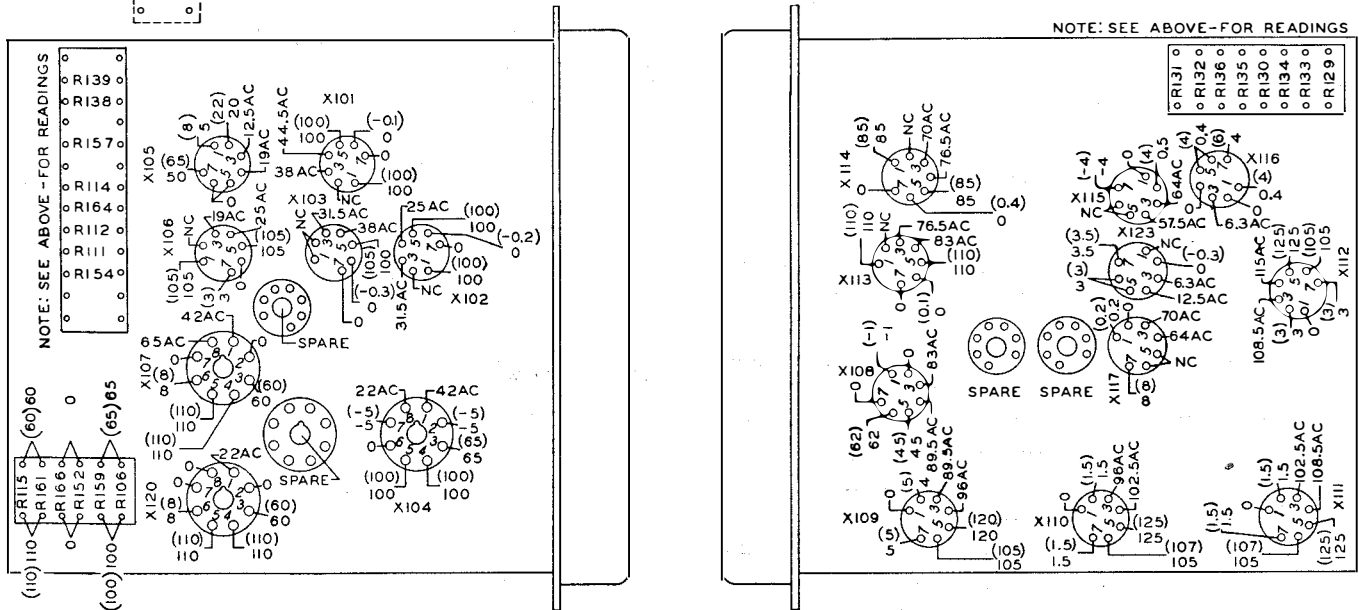

Figure 5-8—Tube Socket to Ground Voltage Measurements
(b) STAGE BY STAGE TEST PROCEDURE. (Refer to figure 5-8.)
(1) Replace the tube with one of the same type that is known to be in good condition. See precautions under paragraph 2. h. in this section.
(2) If the stage employs a crystal, replace the crystal with one of the correct frequency that is known to be in good condition.
(3) Measure the voltages at the tube sockets. Refer to figure 5-8 for typical voltages.